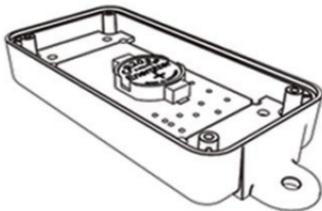

Figure 1
- 4) Remove the battery from the packaging and install it with the plus (+) sign up as in figure 1.**